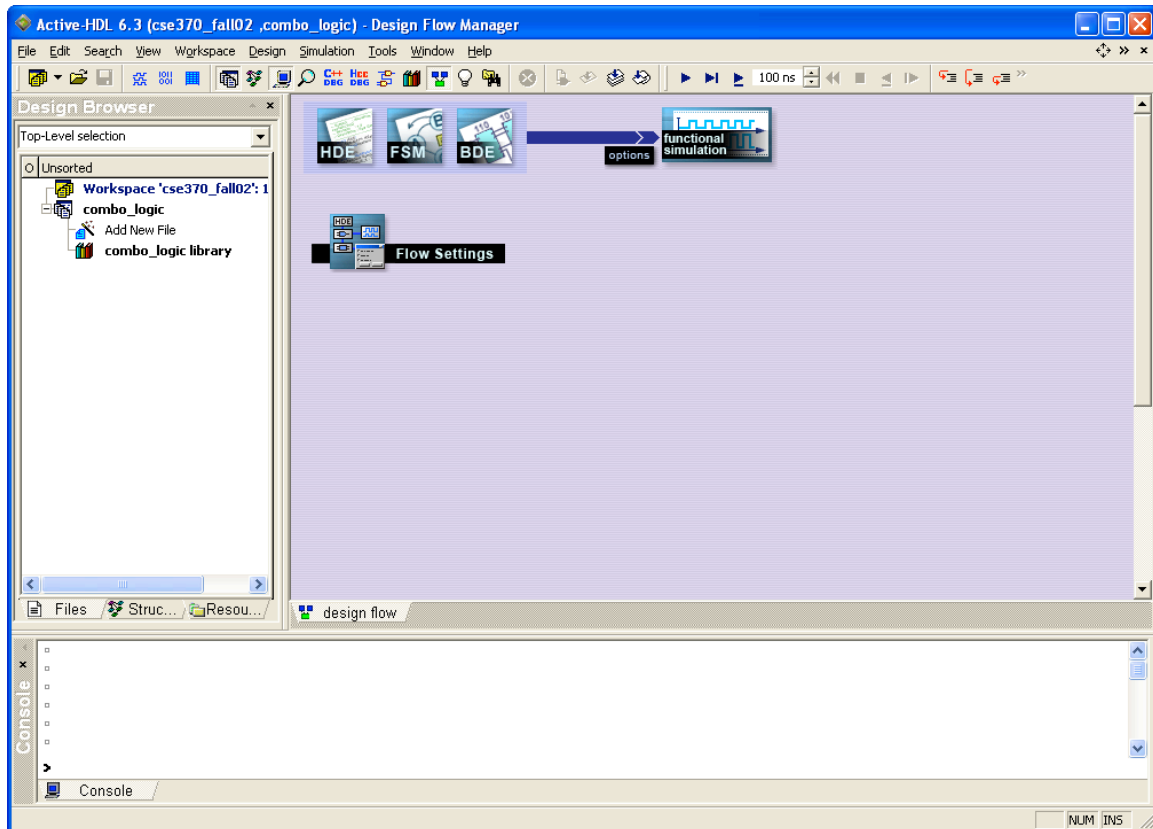

**Figure 5**
3. In the “Type the design name” field, type a name for your new design. **The name must contain only letters, numbers, and underscores (“\_”), and cannot start with a number (i.e. 4bitadder is invalid, however four\_bit\_adder is valid).** Use **descriptive** names that do not match file names, other design names, or workspace names. By default, the design directory is under the workspace directory, and the name of the default working library of the design is the same as the design name. Leave these default values alone. **Warning: the directory path should not contain any spaces in it.** Your window should look like Figure 5 with a more descriptive name than “combo\_logic”.